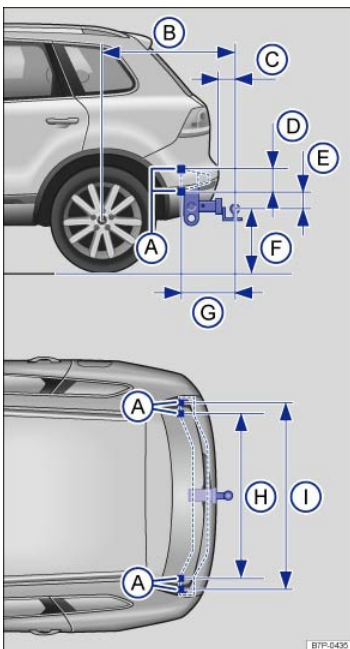

Fig. 106 Dimensions and attachment points for retrofitting a trailer hitch.
When retrofitting a trailer hitch, the specified distance dimensions must be strictly adhered to. Under no circumstances may the distance from the center of the hitch ball to the surface of the road ⇒ Fig. 106(F) be less than the specified minimum. This minimum height must be present even when the vehicle is fully loaded and subject to the maximum tongue weight.
**Distance dimensions ⇒ Fig. 106 :**
- (A) Attachment points.
- (B)  $42\frac{5}{16}$  inches (1074.6 mm)
- (C) at least  $2\frac{9}{16}$  inches (65 mm)
- (D)  $5\frac{1}{8}$  inches (131 mm)
- (E)  $2\frac{1}{16}$  inches (52 mm)
- (F) from  $13\frac{3}{4}$  inches to  $16\frac{1}{2}$  inches (350 - 420 mm)
- (G)  $13\frac{15}{16}$  inches (354.5 mm)
- (H)  $41\frac{5}{16}$  inches (1050 mm)
- (I)  $46\frac{7}{16}$  inches (1180 mm)